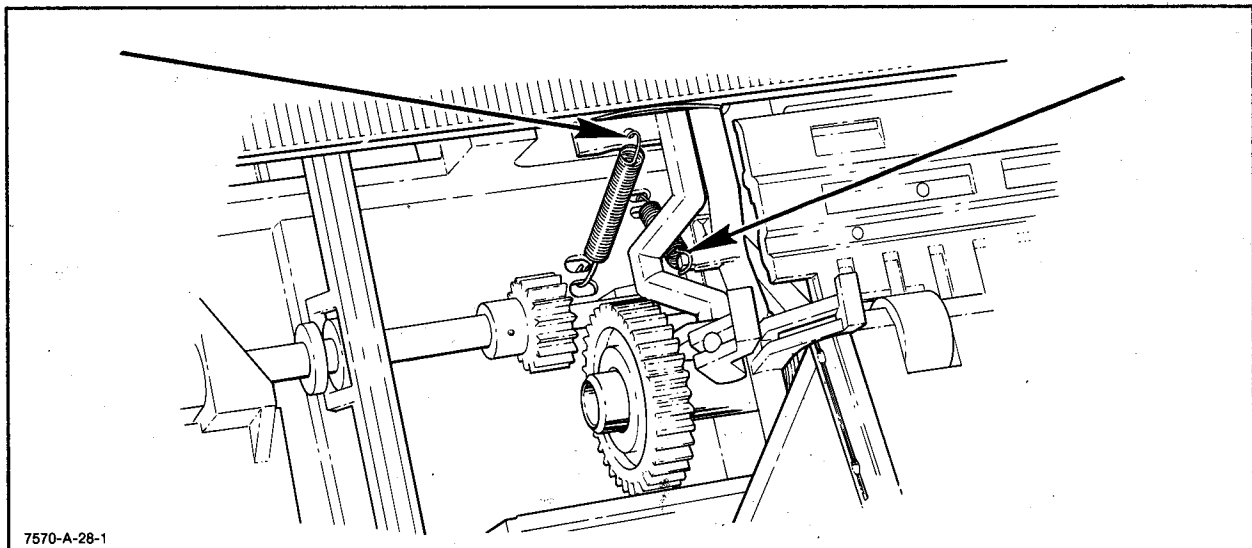

Figure 6-25. Paper Sensor Arms
- f. Use the combination spring tool or small needle nose pliers to unhook the spring from the rear sensor arm. See Figure 6-25.